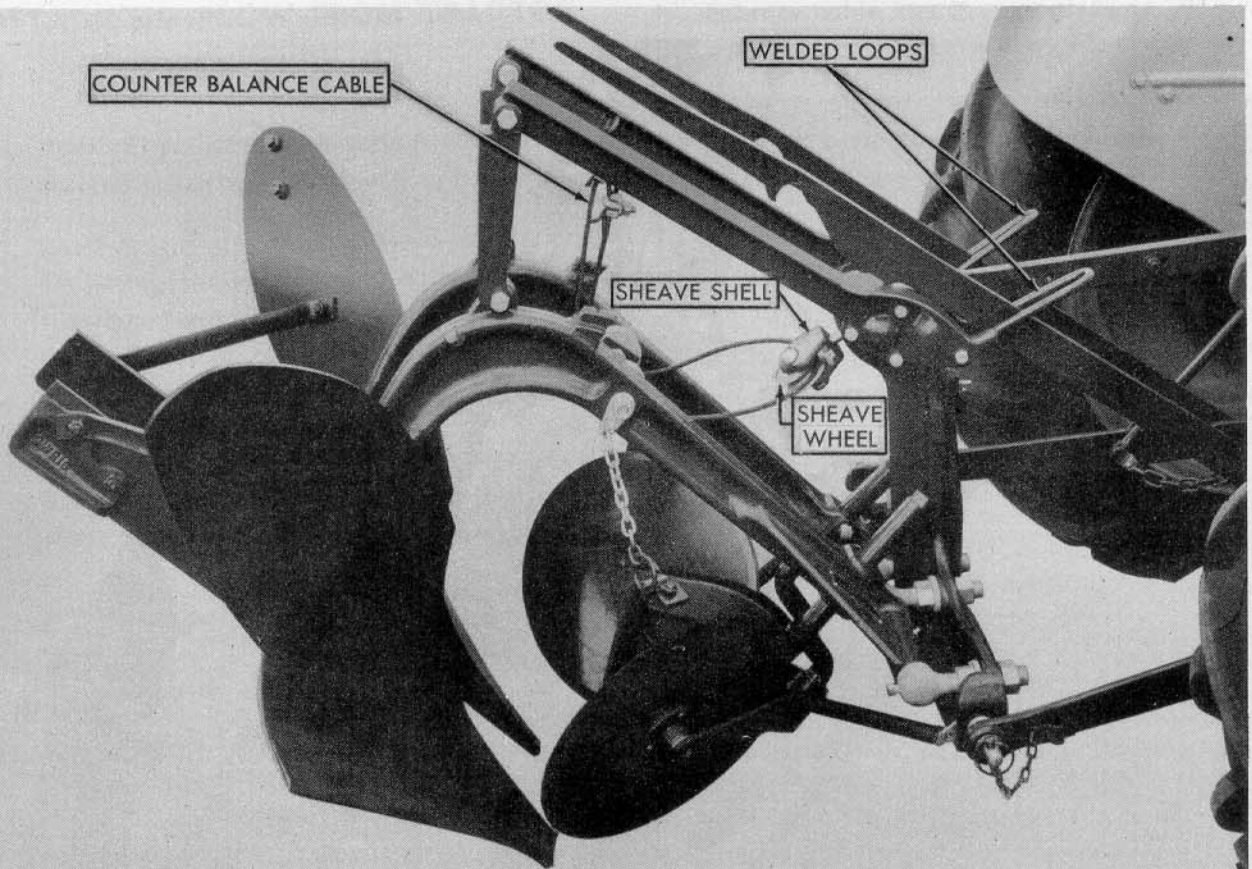

Figure 8
18. Install counterbalance cable as follows: Remove sheave wheel from sheave shell. See Figure 8. Sit in the tractor seat and "break" the joints of the locking arms by grasping the welded loops and pulling forward.
balance cable has enough slack to permit removal from sheave. See Figure 8.